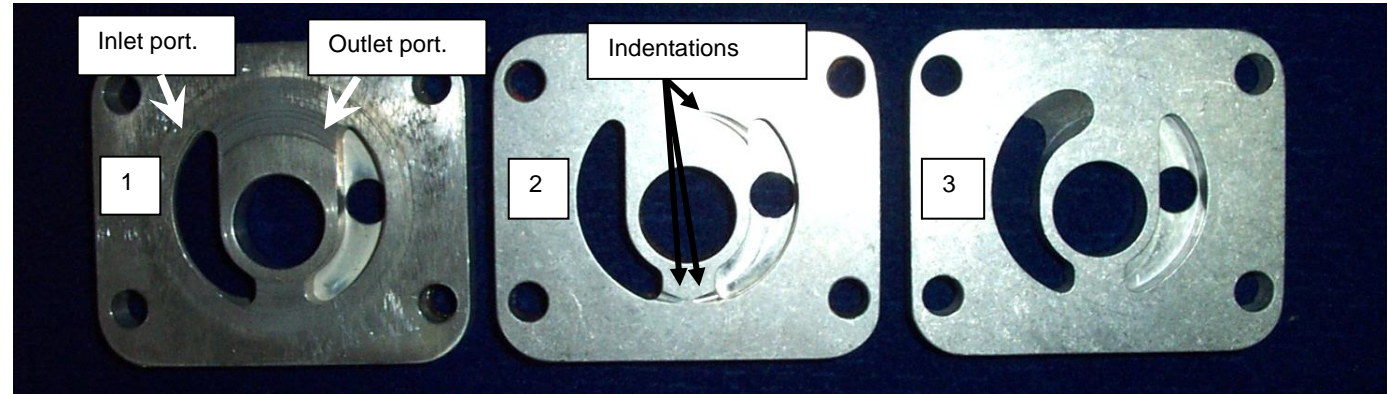

Figure 79 – Port Plate Evolution
- Figure 79 above shows 3 different styles of oil pump port plate.